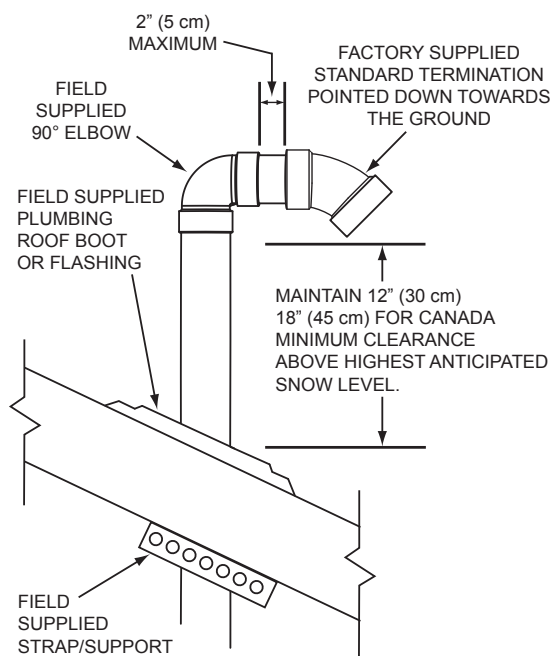
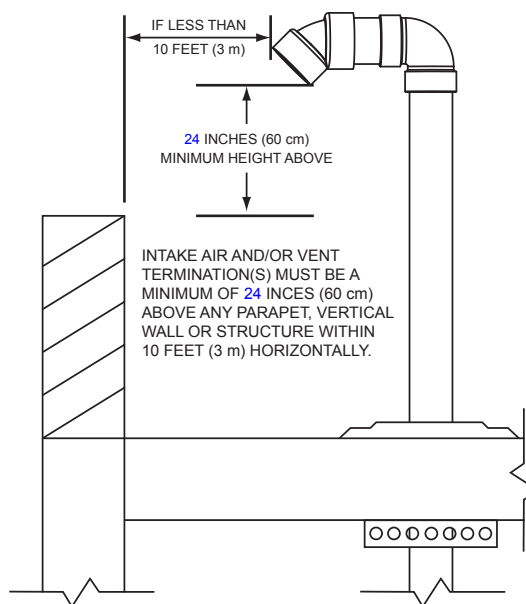
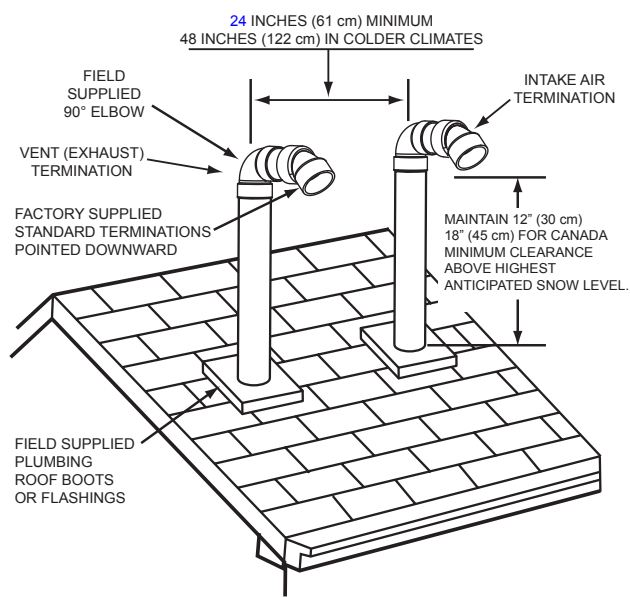

Figure 22. Vertical Termination(s) Installation
Figure 23. Vertical Termination Flat Roof Clearance - Intake Air and/or Vent (exhaust)
Figure 24. Vertical Termination - Direct Vent
2. If installing only the vent (exhaust) piping in a Power Vent configuration vertically through the roof; ensure that all exterior vertical clearance requirements shown in *Figure 22* (page 31) and *Figure 23* (page 31) are being maintained. These clearances and those cited by local and national codes must be maintained.
Note: On flat roof installations the vent termination must be a minimum of 24 inches (60 cm) above any parapet, vertical wall or structure within 10 feet (3 m) horizontally. See *Figure 23*.
requirements shown in *Figure 22* (page 31) and *Figure 23* (page 31) are being maintained. These clearances and those cited by local and national codes must be maintained.
Note: On flat roof installations the intake air and the vent terminations must be a minimum of 24 inches (60 cm) above any parapet, vertical wall or structure within 10 feet (3 m) horizontally. See *Figure 23* (page 31).
- The vent termination must be oriented facing downward as shown in *Figure 22* and *Figure 23* (page 31).
- The bottom edge of vent termination must be a minimum of 12 inches (30 cm), 18 inches (45 cm) in Canada, above average or expected snow level as shown in *Figure 22* (page 31).
- The intake air and vent pipes must penetrate the same side of the roof as shown in *Figure 24* (page 31).
- The intake air and vent terminations must be oriented facing downward and in the same direction as shown in *Figure 24* (page 31).
- The intake air and vent terminations must have a minimum separation of 24" (61 cm) measured on center line as shown in *Figure 24* (page 31). In colder climates this separation should be increased to at least 48 inches (122 cm).
- The bottom edge of the intake air and vent terminations must be a minimum of 12 inches (30 cm), 18 inches (45 cm) in Canada, above the average or expected snow level as shown in *Figure 22* and *Figure 24* (page 31).
- The distance between the closest vent and intake air terminations must be a minimum of 24 inches (61 cm) as shown in *Figure 24* (page 31). In colder climates this separation should be increased to at least 48 inches (122 cm).
8. Suspend the pipe(s) through center of hole using field-supplied metal strapping or equivalent support materials as shown in *Figure 22* (page 31).
9. Slide a roof boot or equivalent flashing over the pipe and secure roof boot or equivalent flashing to roof and seal around the flashing as shown in *Figure 22*, *Figure 23* (page 31), and *Figure 24* (page 31).
10. Install the factory supplied intake air and/or vent termination(s) using field-supplied pipe and one field-supplied 90° elbow as shown in *Figure 22* (page 31) The short section of pipe that connects between the field-supplied 90° elbow and the factory supplied termination must not be excessive in length. The exposed portion of this pipe shall be no more than 2 inches (5 cm).